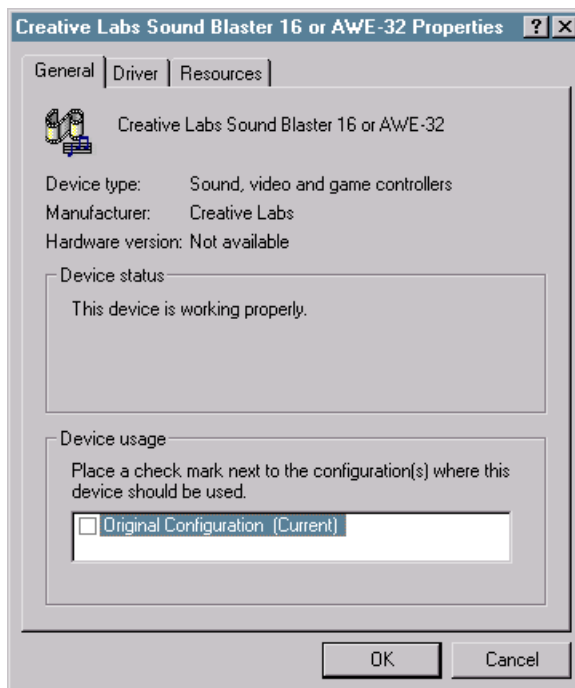

Figure 4-4 Disabling a device to free an Interrupt request for the Cary 50
5. On the General tab, disable the 'Original Configuration' checkbox (see Figure 4-4).